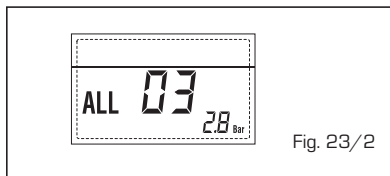

Fig. 23/2
**- C.H. FLOW SENSOR ANOMALY ALARM 05 (fig. 23/4)**